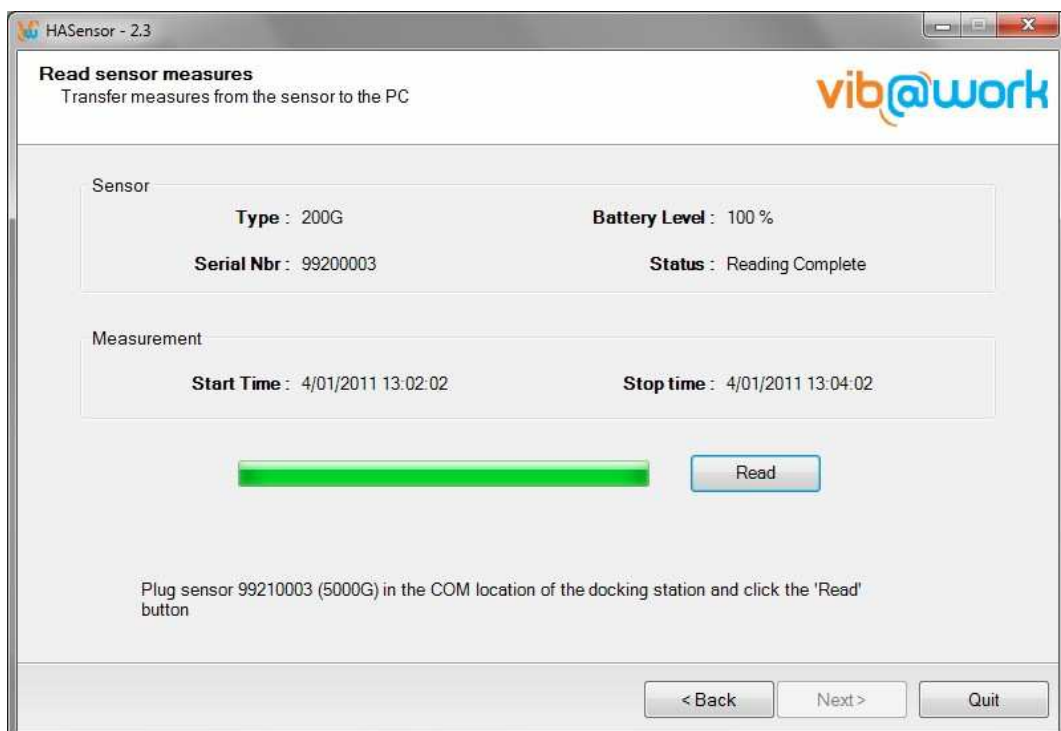

Figure 21: Reading the sensor measurements (2)
- Click on the "Read" button. The sensor reading operation takes a few seconds, or a few minutes depending on the measurement duration and the selected T_0 base range. If performed correctly, the screen in Figure 21 is displayed.